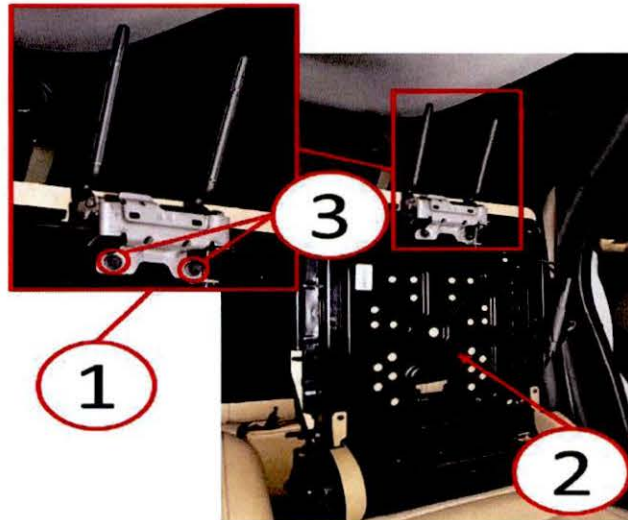

Fig. 2 Headrest Mechanism
3. Remove the bolts shown in (Fig. 2) and discard the headrest mechanism.